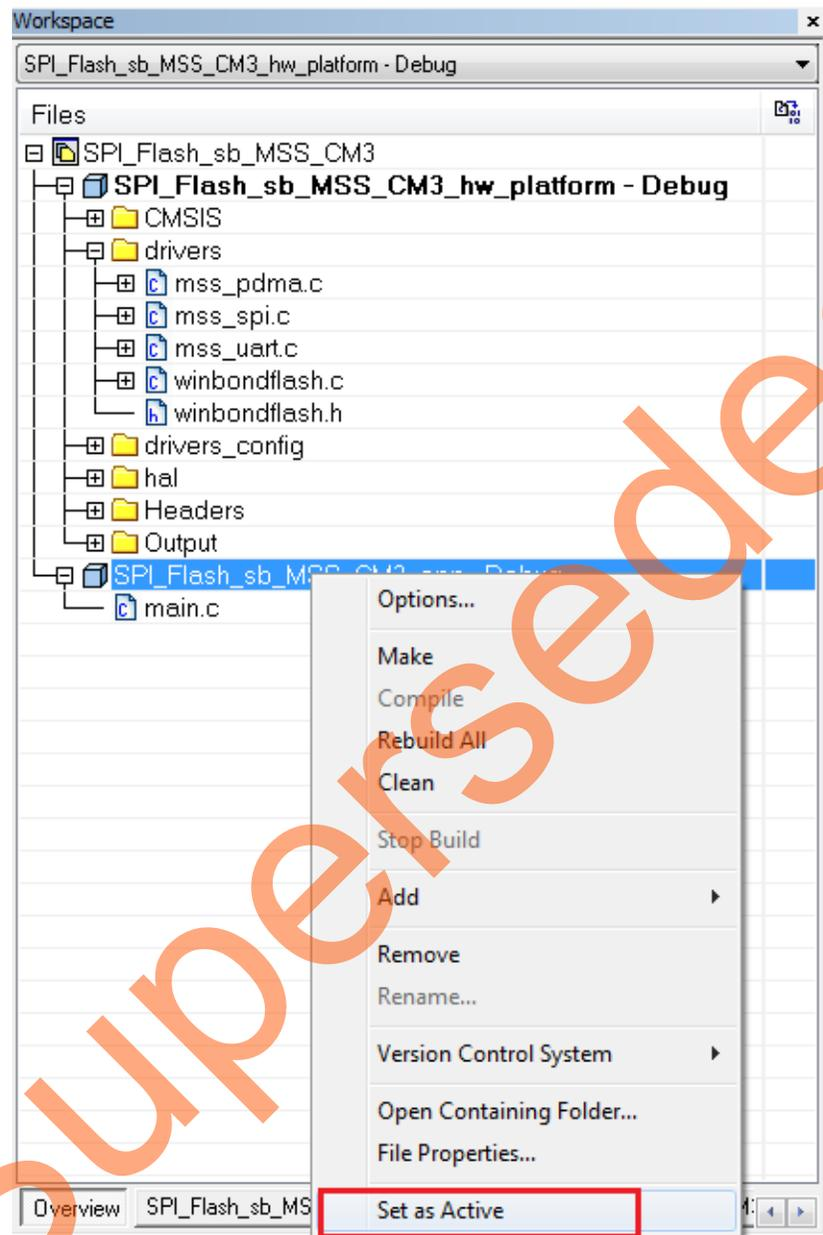

Figure 33 • IAR Workspace - SPI_Flash_sb_MSS_CM3_app Set as Active
- Right-click **SPI_Flash_sb_MSS_CM3_app - Debug** project name and select **Set as Active**, as shown in Figure 33.